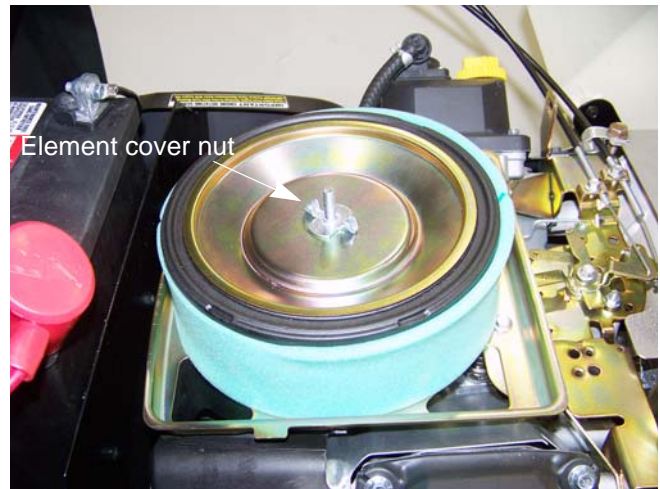

Figure 9.5
4. Remove the element cover nut. See Figure 9.5.